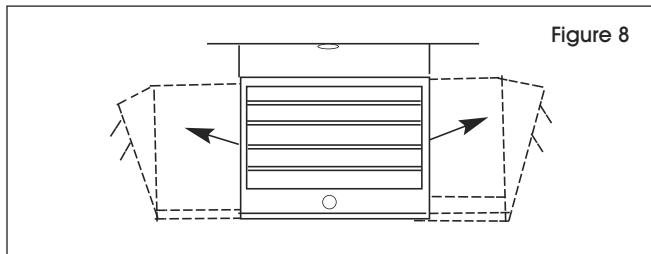

Figure 8
1. **Turning the unit:** If the unit has been installed with a single lag bolt, simply turn the entire unit as needed to adjust air flow. (See Figure 8)